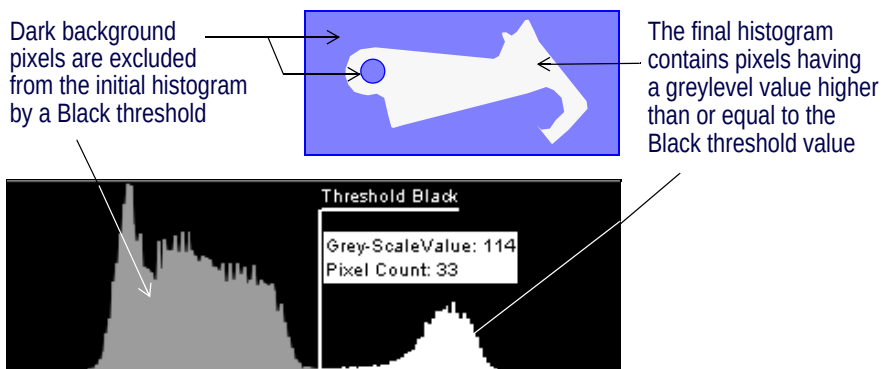

Figure 390 Applying a Threshold to Exclude Background Pixels
- The example illustrated Figure 390 demonstrates the use of a threshold to remove background pixels surrounding an object of interest.